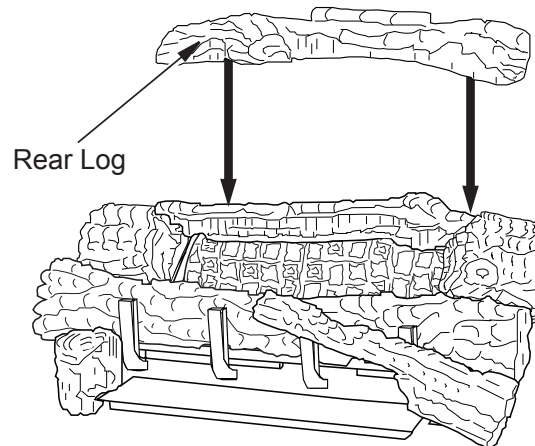

Figure 34 - Installing Rear Log
8. Rest rear log in back corner sections of chassis assembly as shown in **Figure 34**.